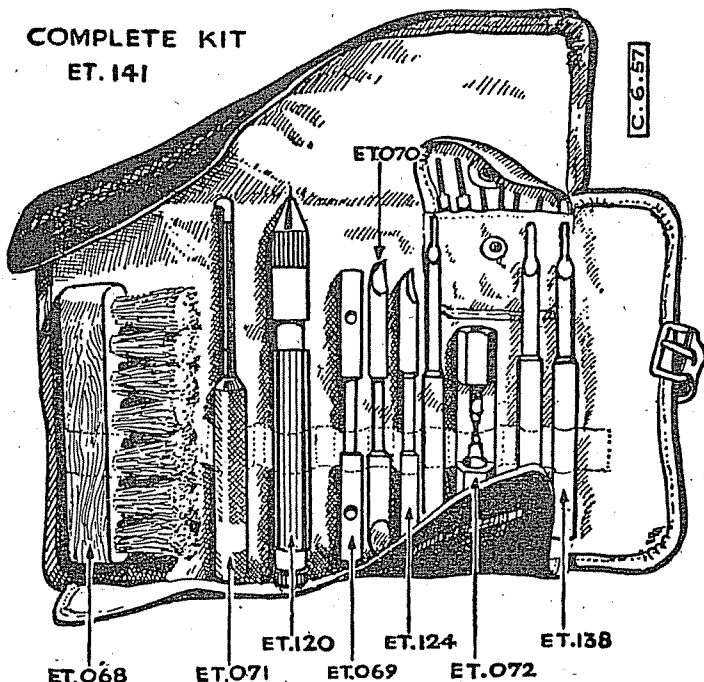
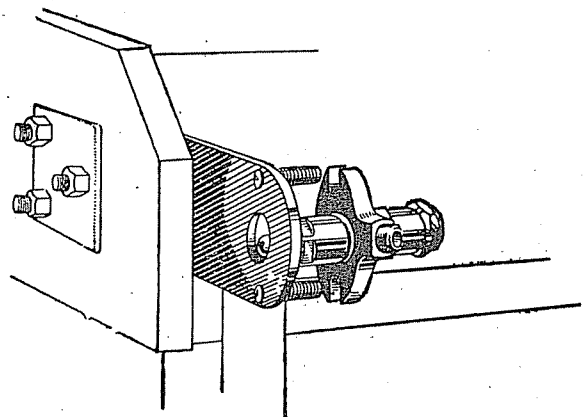
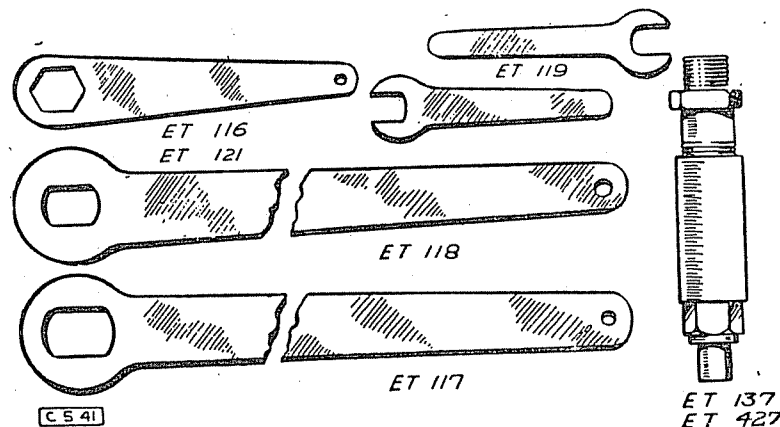
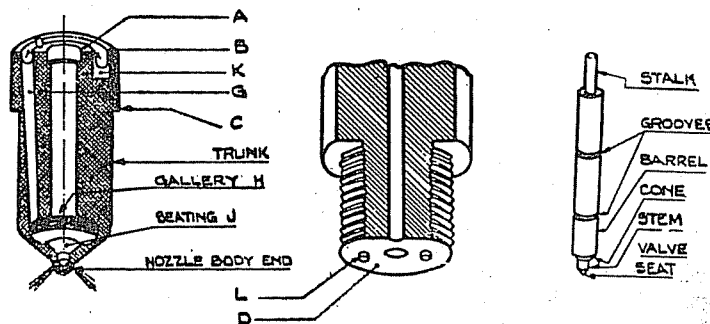

Fig. 22—Complete Kit of Tools for use when cleaning and overhauling Atomisers.
Fig. 23—Showing plate for holding Atomiser while is is being dismantled.
Fig. 25—Spanners and Cleaning Tools for use with Atomisers.
Fig. 26—Diagrams of Atomiser and Atomiser Body; the letters have reference in the text.
The nozzle and nozzle valves are the important parts. They are shown in Figure 26. Fuel is fed from the upper channel in the nozzle from the atomiser body and travels thence along a number of drilled holes to the lower circumferential channel. The outlet for the latter is normally closed by the valve as shown. The atomiser body, complete with its nozzle and nozzle valve, is shown in Figure 20. The nozzle is held in place by the nozzle holder cap nut (21). This holds the upper face of the nozzle in close contact with the corresponding lower face of the atomiser body. A metal to metal contact is made here.
it will be seen at once if the spray is in order. If the spray is unduly "wet" or "streaky" or obviously to one side, or the atomiser nozzle "dribbles", the spray holes should be probed with special tool E.T. 120. See Figure 22. If, after probing the spray holes, the condition of the atomiser is still faulty, remove the complete unit.
A plate made as shown in Figure 23 should be secured to the bench. Its purpose is to hold the atomiser securely whilst various maintenance work is proceeding.
If the spray is still unsatisfactory, even after trying the effect of drawing the carbon away from around the atomiser nozzle mouth with a fine wire brush especially designed for the purpose and illustrated in Figure 22, the atomiser should be placed on the atomiser holding plate already described. (See Figure 23).
- (1) Slacken off the nozzle holder cap nut (21), Figure 20, with a special ring spanner for this purpose, E T.116, Figure 25. To hold the nozzle holder cap nut in a vice, or to use ill-fitting, "packed" or adjustable spanners or wrenches is to invite disaster.
- (2) Examine the pressure face of the nozzle holder cap nut to see it is not damaged so as to have "nipped" the atomiser nozzle in any way.
- (3) The nozzle holder cap nut should now be removed and the atomiser nozzle completely lifted from the atomiser body for examination.
The surfaces of "A" and "B", Figure 26, on the top of the atomiser nozzle should be clean and
Assuming that the nozzle valve has been soaking and the two surfaces "A" and "B" on the top of the atomiser nozzle flange already mentioned are clean and free from damage, the inside of the atomiser nozzle should be examined. The kit of tools shown in Figures 22 and 25 are recommended. They can be obtained from a C.A.V. service depot.
- (1) Explore the three small drilled passages "G", Figure 26, to see they are clear and clean.
- (2) Examine the valve stem bore in which the nozzle valve slides. This surface should be bright and clean and free from scratches or dull patches.
- (3) The valve seating "J", Figure 26, should now come under observation under a strong light to ascertain whether or not it is free from dirt and carbon. It is always advisable to use the soft brass seat scraper No. ET.070, Figure 22, to remove any carbon or particles that may be imprisoned on the seat.
- (4) The gallery "H", Figure 26, should now be cleaned with the aid of the special soft brass scraper No. ET.071, Figure 22, to ensure that it is free from dirt or carbon.
- (5) The spray holes in the atomiser nozzle should be probed with the special tool ET.120, Figure 22.
- (6) Assuming the spray holes have been cleaned satisfactorily, the atomiser can be placed into the container to soak in kerosene, or preferably assembled to atomiser flushing tool No. ET.427, Figure 25, and thoroughly flushed through to ensure that all carbon particles are removed from the inside of the atomiser nozzle.
- (7) The nozzle valves should now be polished by rubbing with an absolutely clean cloth. A piece of used boiled cotton is best, upon which there is no suggestion of fluff.
- (8) Pay particular attention to the valve seat. This and the smaller cylindrical portion above it, called the "stem" and "cone" in Figure 26, can be cleaned with a fine brass wire brush. To ensure the stem and cone are free from any particles, the soft brass brush stem cleaner No. ET.072 should be applied with a rotary action, pressing the nozzle valve into the cleaning tool with the fingers.
- (9) The valve and atomiser may be assembled after ensuring that exterior of the atomiser is clean and free from carbon.
- (10) Wash the atomiser body in clean kerosene, care being taken to ensure that the highly ground face "D" Figure 26, is clean and free from scratches. This face must register with the atomiser nozzle flange cleanly and squarely to form a high pressure joint, and must, therefore, be handled in such a way as to avoid damage to the surface.
- (11) The exterior of the atomiser body must, of course, be cleaned thoroughly from dirt and grease in the usual manner.
Periodically, it is advisable to dismantle the interior of the atomiser body to examine the springs (24) Figure 20, spring plate, and nozzle spindle (22). When dismantling a special spanner Nos. ET.117 and ET.118 (see Figure 25) should be applied for the removal of the nozzle holder spring cap (25) Figure 20, which is revealed after the removal of the covering protection cap. The interior of the atomiser body and the parts removed should be washed carefully to remove any dirt or moisture. If the spring and the parts are in good condition, they should be re-assembled carefully,
- (3) After cleaning, the atomiser should be tested always on the atomising testing pump as previously described.
- (4) If the pressure at which the spray breaks is not as previously quoted, it can be adjusted by the spring adjusting screw and lock nut using spanner ET.119 Figure 25.